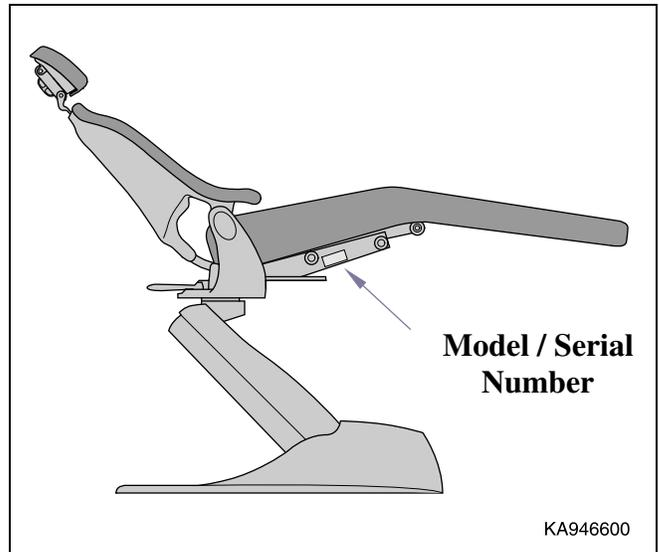

Figure 1-6. Model Number / Serial Number Location
- (1) Refer to Figure 1-6 to determine location of model number and serial number of chair and record this data. Refer to Parts List to determine item numbers of parts, part numbers, descriptions, and quantities needed and record this data (Refer to para 6.1).